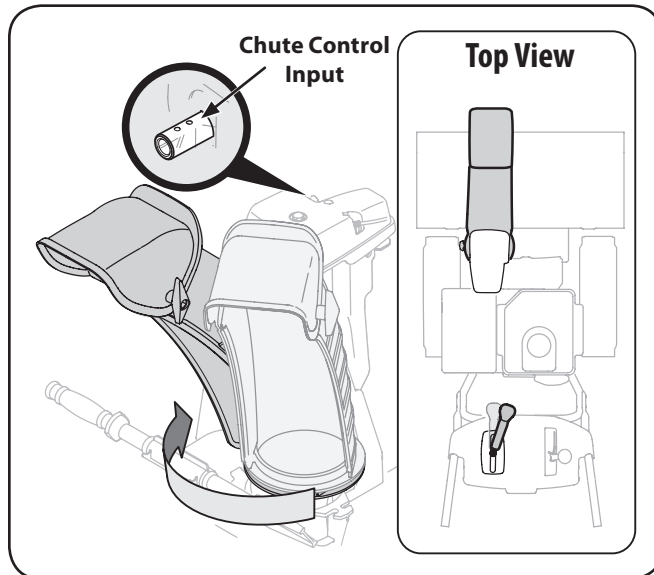

Figure 3-4
4. Squeeze the trigger on the joystick and rotate the chute by hand to face forward. The holes in the chute control head will be facing up. See Fig. 3-4.